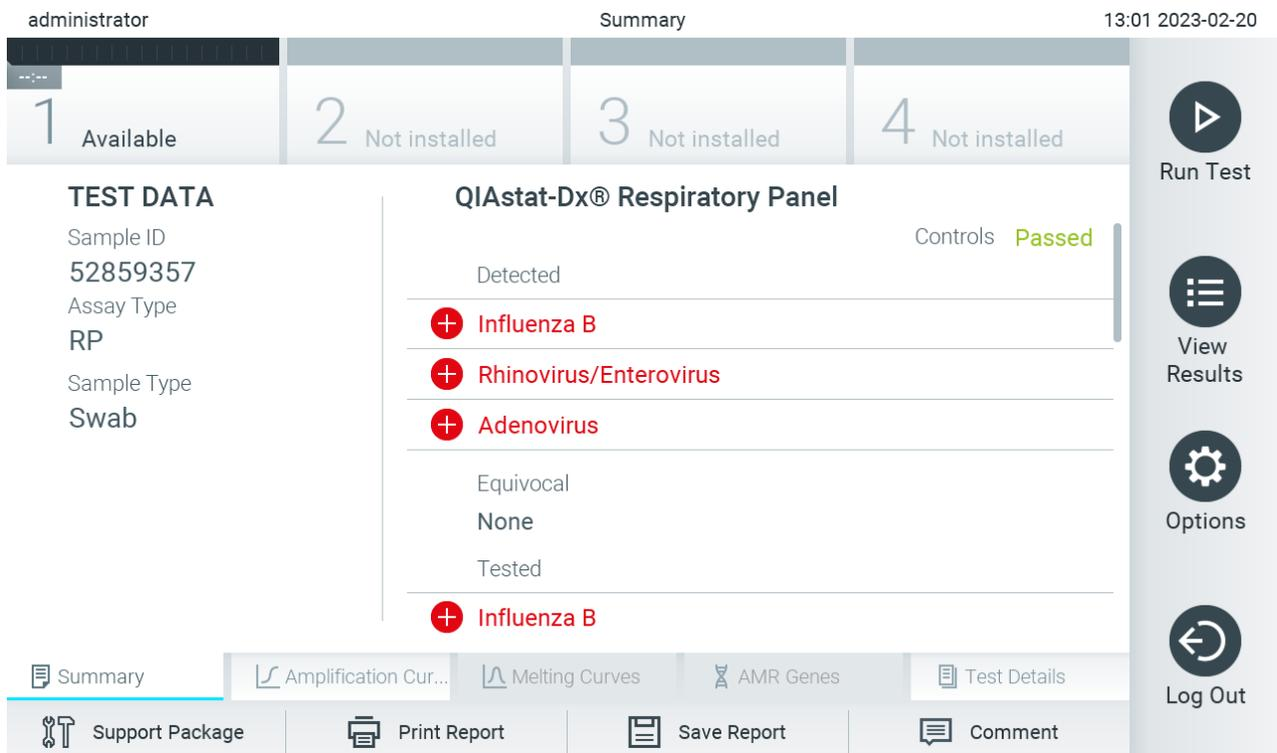

Figure 30. Results summary screen.
- After the QIAstat-Dx assay cartridge has been ejected, the results Summary screen will appear (Figure 30). Refer to Section Viewing results for further details.